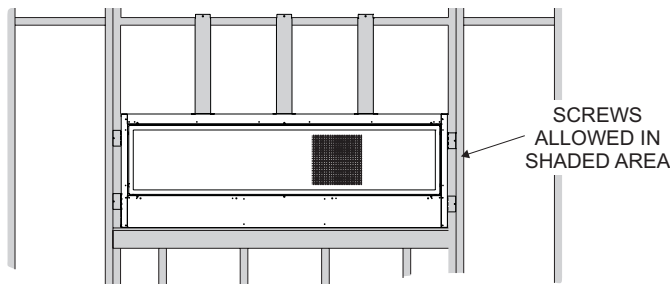

Figure 51
1. Screws are allowed in framing and top mounting brackets. No screws are allowed into the fireplace. **See Figure 51.**